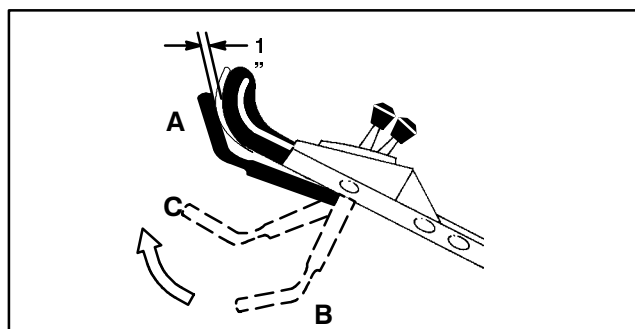

Figure 4
8. Lift control bar to the normal "blade engaged" position (about one inch below the handle) (Position A, Fig. 4). The "fan" noise indicates that the mower blade is turning.
9. Release the control bar (Position C, Fig. 4). A "bang" should be heard. The blade should stop running in three seconds.